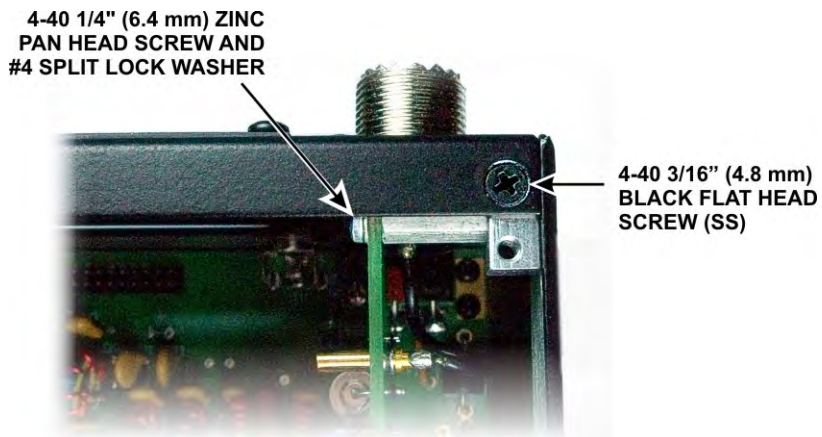

Figure 74. Installing KANT3A/KAT3A Mounting Screw.
- Mount the KANT3A or KAT3A board to the standoff on the side panel with a 4-40 1/4" (6.4mm) zinc pan head screw and a #4 split lock washer under the screw head as shown in Figure 74. **Do not place a washer between the board and the standoff.**
- Install a 4-40 3/16" (4.8 mm) black flat head screw (SS) to secure the top of the rear panel to the 2D fastener as shown in Figure 74.
- . When properly positioned, the rear panel should fit snugly against the inside edge of the side panels as shown in Figure 74. Verify the fit is correct against the side panels at both ends of the rear panel. If necessary loosen the 2D fastener screws enough to adjust the position of the panels. .